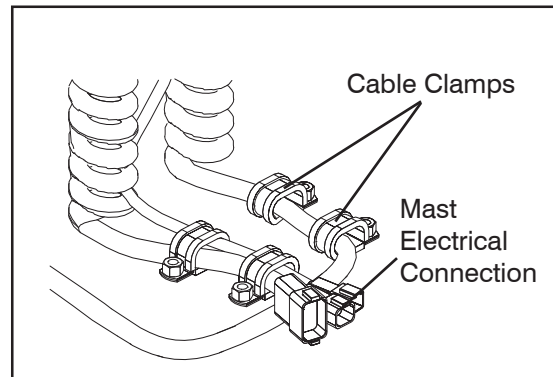

Figure 5-30. Cable Clamps and Mast Electrical Cables Installation
8. Install all the cable clamps and the ground wire. See Figure 5-30.